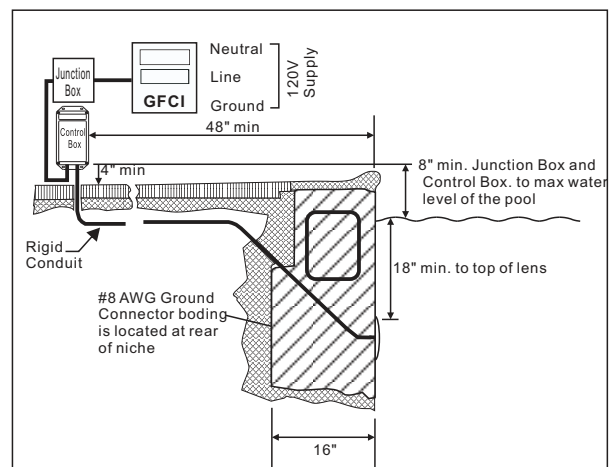

Figure 2
2. Drill 1 hole on the flat place you intend to mount the pool light, use 1 expansion screw to fix the light. treat the light with silicon around the light. (you may need to cut off the bolt that is for wet niche install.) See Figure 2